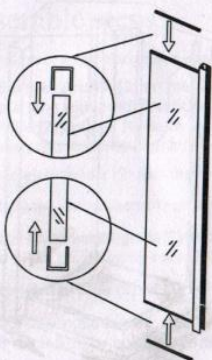

fig 5
4. Place U-shape seal gaskets (4) on two short (horizontal) sides of the fixed glass panel (8). (fig 5)